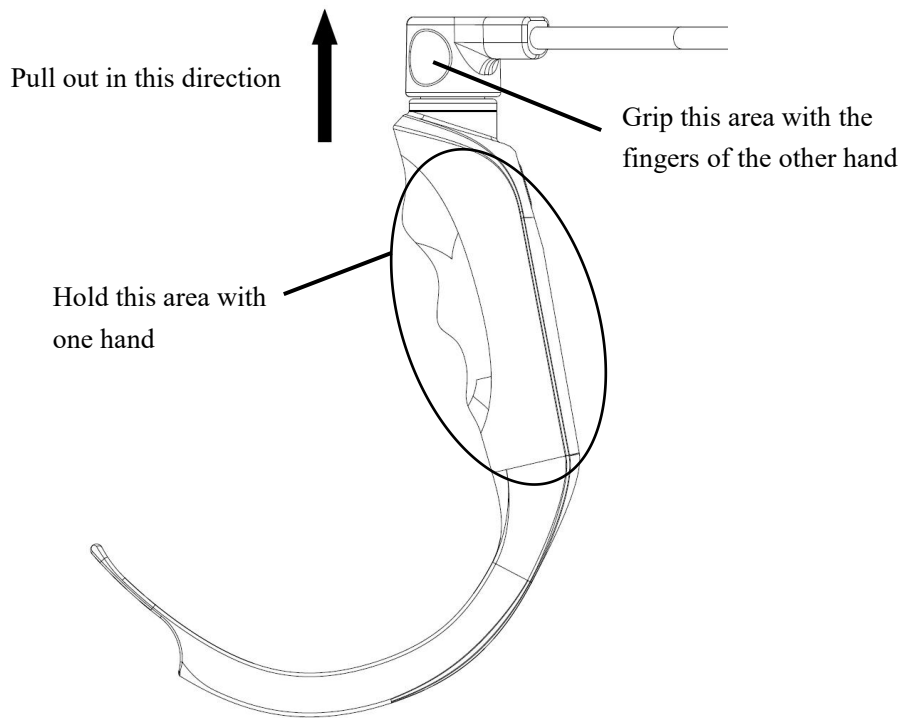

Figure 3-2. Disassembly of the laryngoscope blade from the signal connecting line
1. Hold the laryngoscope blade with one hand, and use the fingers of the other hand to grip the holding area of the connection socket of the signal connecting line. Gently lift it up to disassemble it, as shown in Figure 3-2 below.